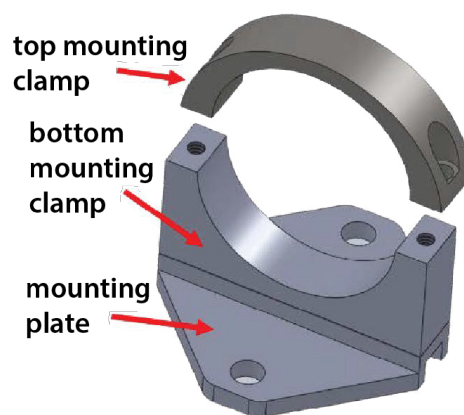
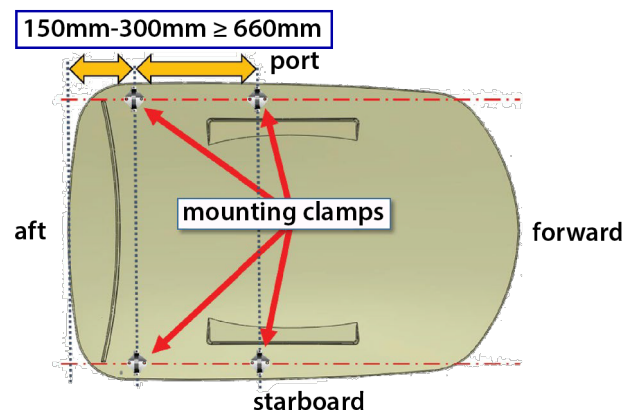

Fig.5
Fig.6
1. Disassemble the four mounting clamps, which may include spacers (**Fig.5**) depending on installation, by removing the two M6 x 20mm socket head screws from each clamp.
A. Remove the top clamp (**Fig.5**).
C. Place mounting clamps 150mm-300mm (6"-12") from aft of hardtop (Fig.6). Spacing between forward and aft mounting clamps should be no less than 660mm (26") (Fig.6).
2. Position the four bottom mounting clamps (Fig.5) along the predetermined lines on the hardtop (Fig.6).